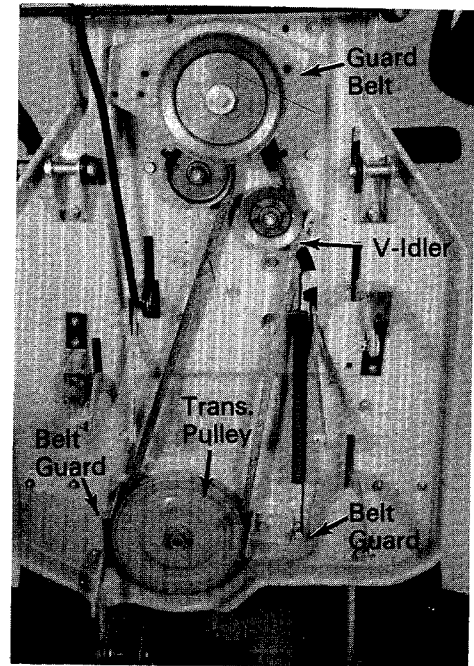

Figure 21.
6. Remove the six pins holding the deck to the frame. (See figure 21.)
### TRANSMISSION BELT (See figure 21.)